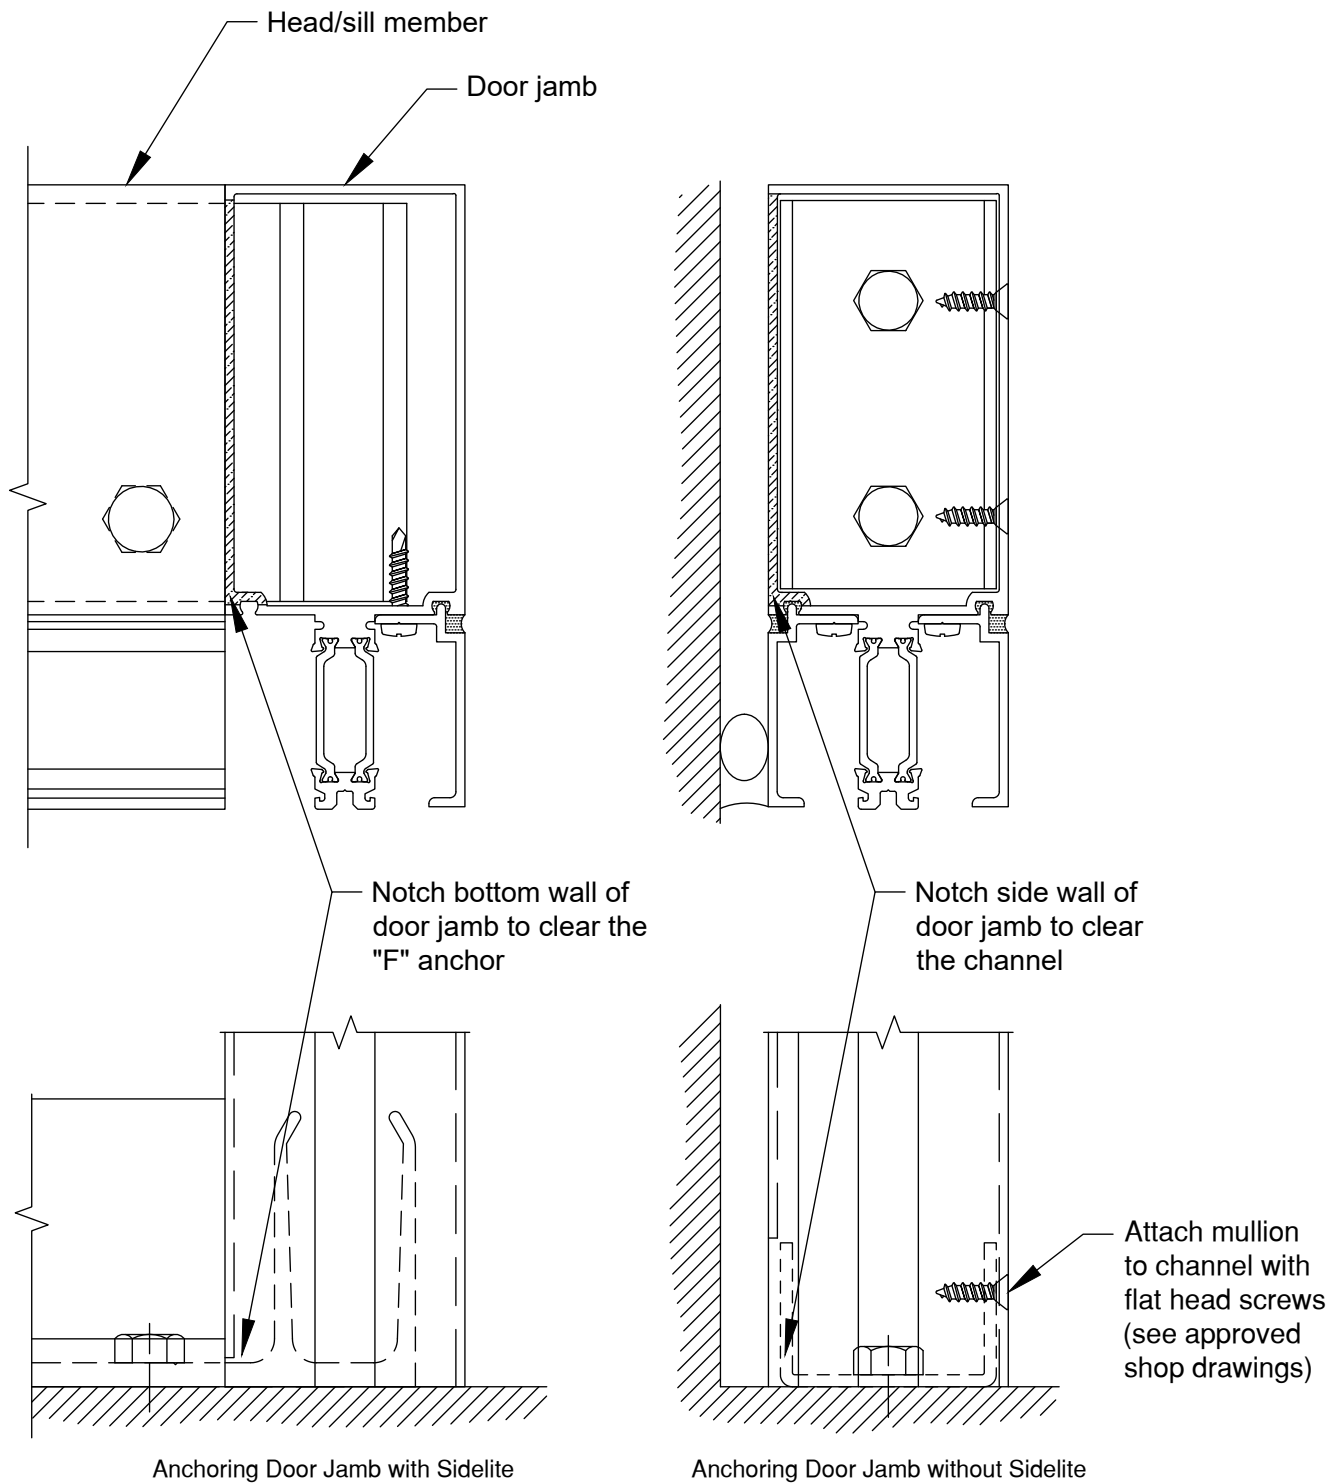

FIGURE 26
C.1 Curtain wall verticals and door subframes run through to finished floor. Bed adjacent curtain wall verticals in sealant and anchor to floor per approved shop drawings. **SEE FIGURE 26** for suggestions on anchoring door jamb mullion.